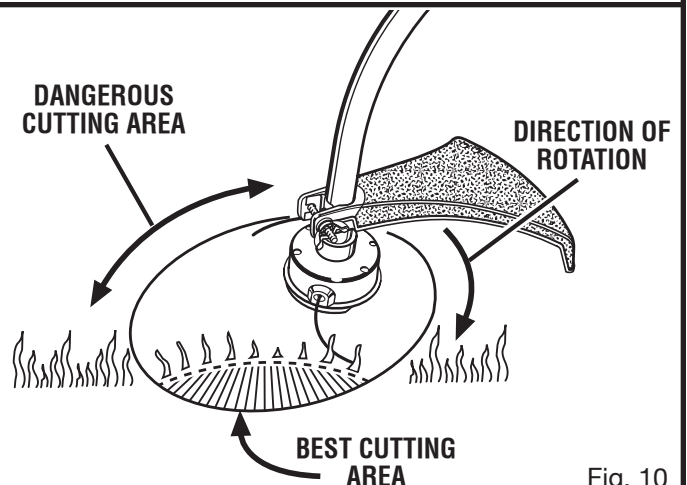

Fig. 10
- The trimmer cuts when passing the unit from right to left. This will avoid throwing debris at the operator. Avoid cutting in the dangerous area shown in figure 10.